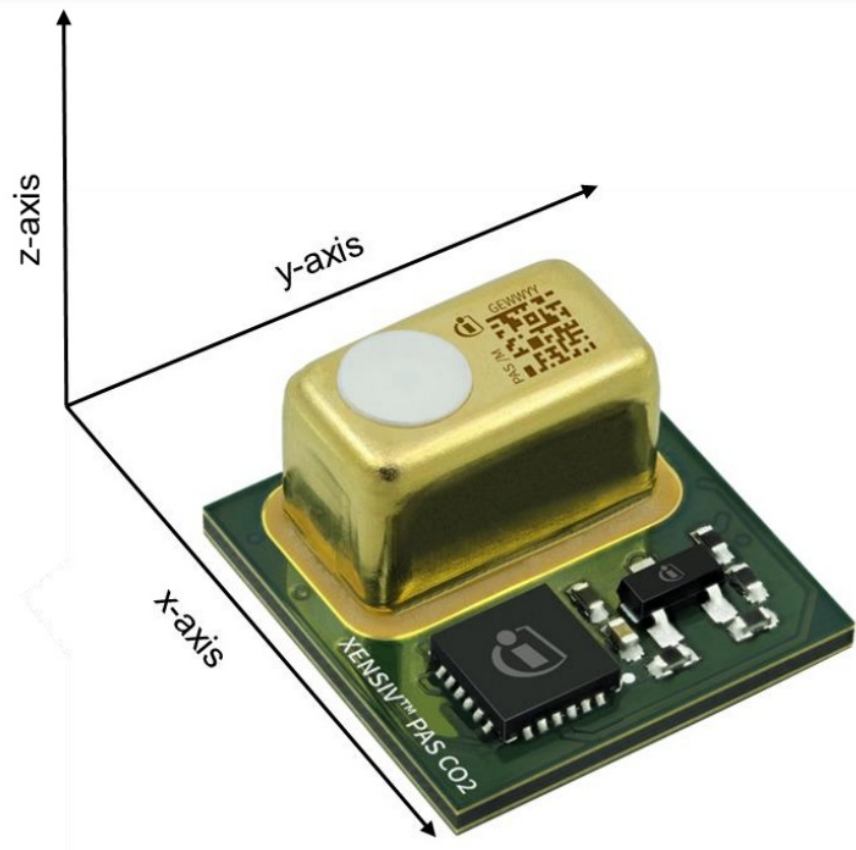

Figure 4 The sensor should be placed in the x-direction of the vibration source
- **Isolation from vibration:** The detector of the PAS technology is a MEMS microphone, which quantifies small pressure changes within the gas cavity. Low-frequency vibrations may create similar pressure change and the sensor may consider this small pressure change as the real CO2 concentration change. Therefore, it is recommended to ensure that the sensor remains isolated from a direct vibration source. However, if it will not be possible to ensure vibration isolation, it is recommended to identify the vibration source first and position the sensor in such a way that the vibration comes from the x-direction of the sensor, as shown in Design-in guidelines for XENSIV™ PAS CO2 Figure 4. Additionally, during continuous mode and fast sampling rate operation it is recommended to enable the denoiser filter (stepwise reactive IIR), which further minimizes the impact of vibrations.